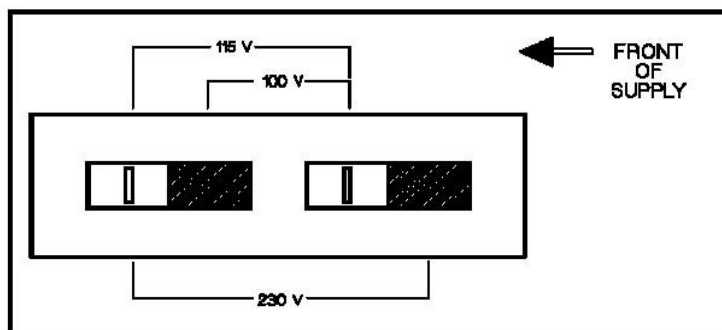

Figure 5-1 Line voltage selector (set for 115 VAC)
- 1 After making certain that the line cord is disconnected from a source of power, remove the top cover from the supply and set the two sections of the line voltage selector switch for the desired line voltage (see **Figure 5-1**).